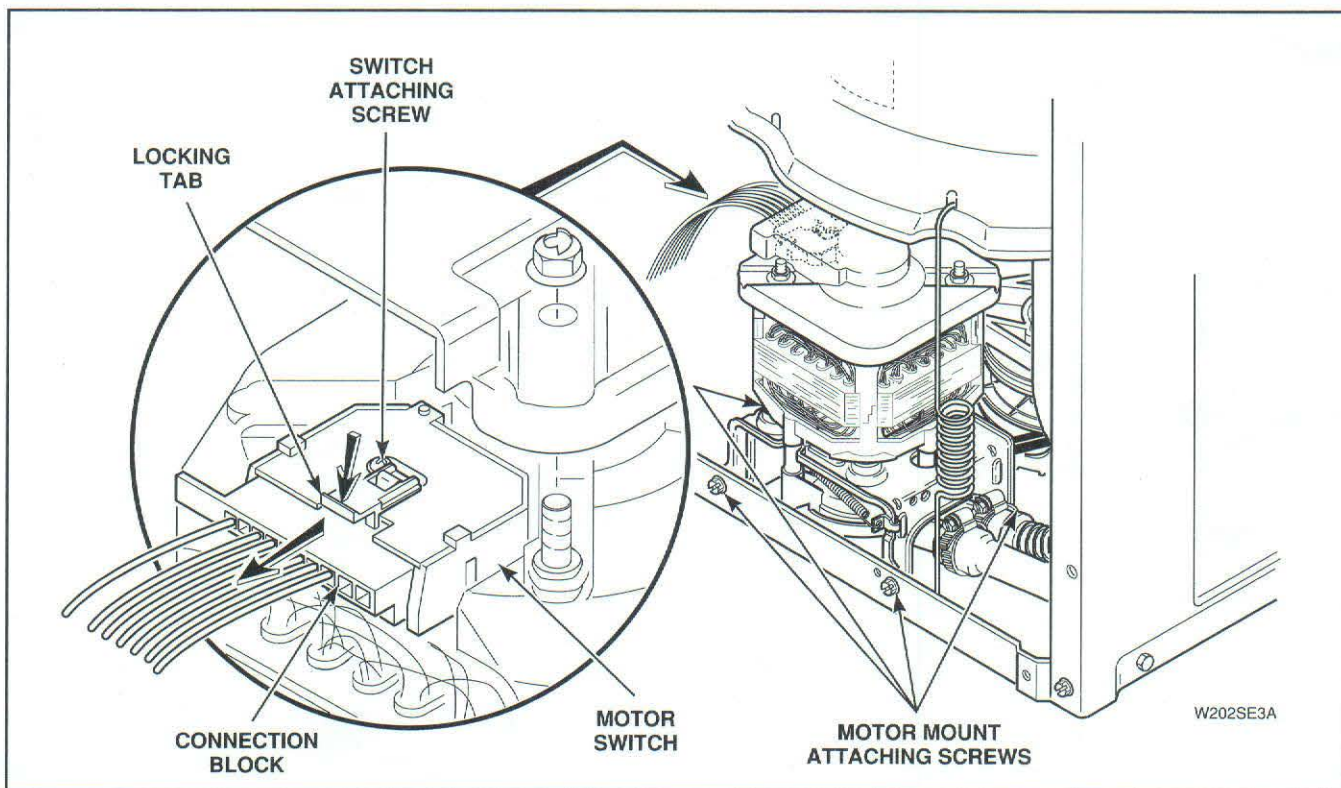

Figure 23
- Disconnect wire harness from motor switch by pressing down on locking tab on top of connection block and at the same time pull connection block away from motor switch, *Figure 23*.
- Remove four screws holding motor and mounting bracket to washer base, *Figure 23*, then lift complete assembly out of washer.
- Remove four screws holding motor assembly to washer base, *Figure 23*, then lift complete assembly out of water.
- c. Loosen hose clamps and remove hoses from pump assembly, *Figure 23*.
- f. Disconnect wire harness from motor switch by pressing down on locking tab on top of connection block and at the same time pull connection block away from motor switch, *Figure 23*.
- g. Remove four screws holding motor assembly to washer base, *Figure 23*, then lift complete assembly out of washer.
- Remove screw holding motor switch to motor, *Figure 23*, and remove switch.